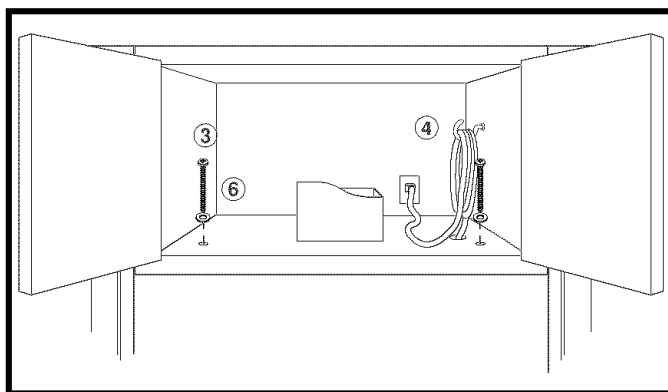

Figure 25
3. Use two Top Cabinet Screws (3) and two Flat Washers (6), supplied in the INSTALLATION HARDWARE, to attach the unit to the top cabinet. See Figure 25.
4. Make a bundle of the Power Supply Cord and attach it to the inside of the cabinet using the Power Cord Hanger (4). See Figure 25.